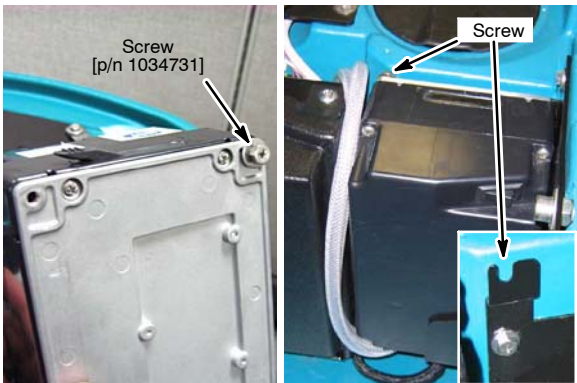

Fig. 18
6. Thread one m6x1.00x16 sems screw [p/n 1034731] into the module as shown. Do not tighten screw. Install the module into the mounting bracket. Align screw with screw slot and tighten. Route the two module hoses as shown (Figure 18).